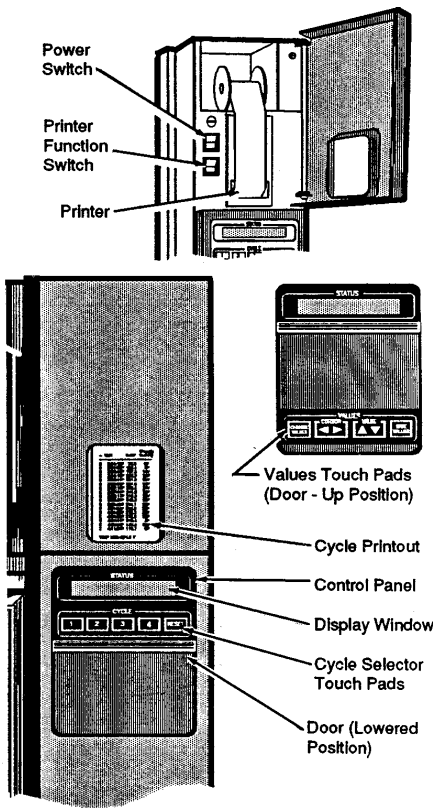

Figure 3-1. Turn Power On
3.3 Change Gravity Sterilizer Cycles, Cycle Values And Control Values (See Figure 3-1)